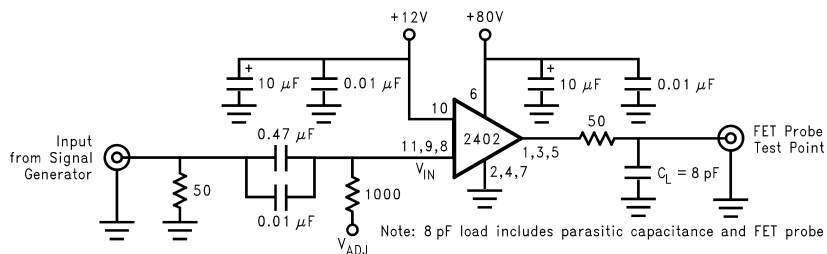
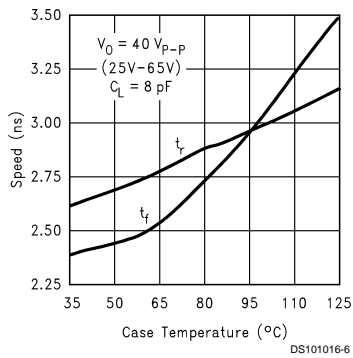

FIGURE 2. Test Circuit (One Channel)
FIGURE 4. Speed vs Temp.
(See Figure 2 for Test Circuit)
Figure 2 shows a typical test circuit for evaluation of the LM2402. This circuit is designed for testing the LM2402 with a FET probe. When calculating the total load capacitance,
*Figure 2* shows a typical test circuit for evaluation of the LM2402. Due to the very wide bandwidth of the LM2402, it is necessary to use a FET probe that is DC coupled to the output for evaluation of the CRT driver's performance. The 50 $\Omega$  resistor is used to duplicate the required series resistor in the actual application. This resistor would be part of the arc-over protection circuit. The input signal from the generator is AC coupled to the input of the CRT driver.
*Figure 4* shows the performance of the LM2402 in the test circuit shown in *Figure 2* as a function of case temperature. *Figure 4* shows that both the rise and fall times of the LM2402 become slightly slower as the case temperature increases from 40°C to 125°C. In addition to exceeding the safe operating temperature, the rise and fall times will typically exceed 3 nsec. Please note that the LM2402 is **never to be operated over a case temperature of 100°C**.